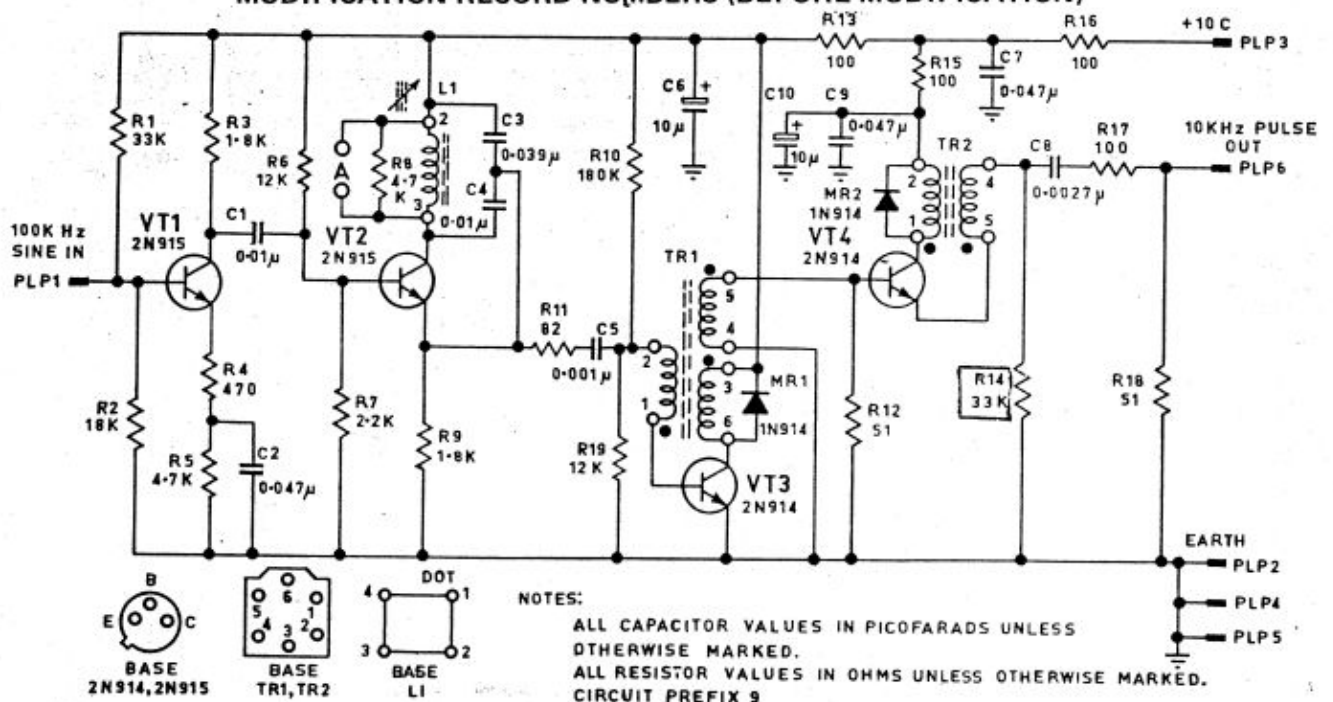

FIG 2 - 10 KHZ PULSE GENERATOR CIRCUIT 9CB1 (MODIFIED BY REPLACEMENT OF R 14).
- b. On the front panel flange modification record plate, strike through figure 2 thus.